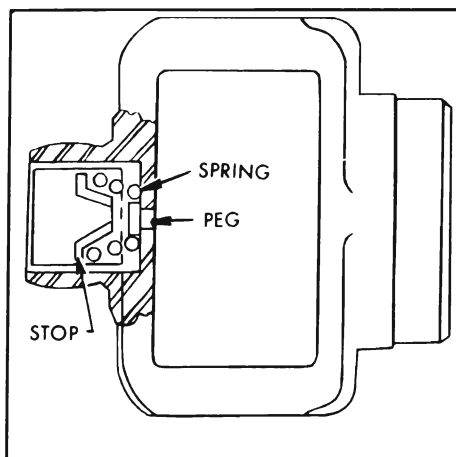

Figure 6-68—Stop, Spring, and Peg Position in 4-Speed Propeller Shaft
5. Install spring stop so that small end enters the large opening in the spring. See Figure 6-68.